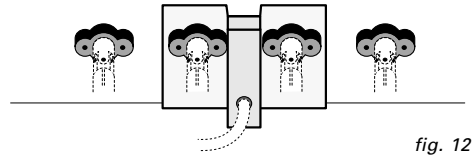

fig. 12
5. Screw the attachment plate and the cardan holders firmly onto the dashboard again (see fig. 12). Take care that the cardan holders are fitted in the correct position.